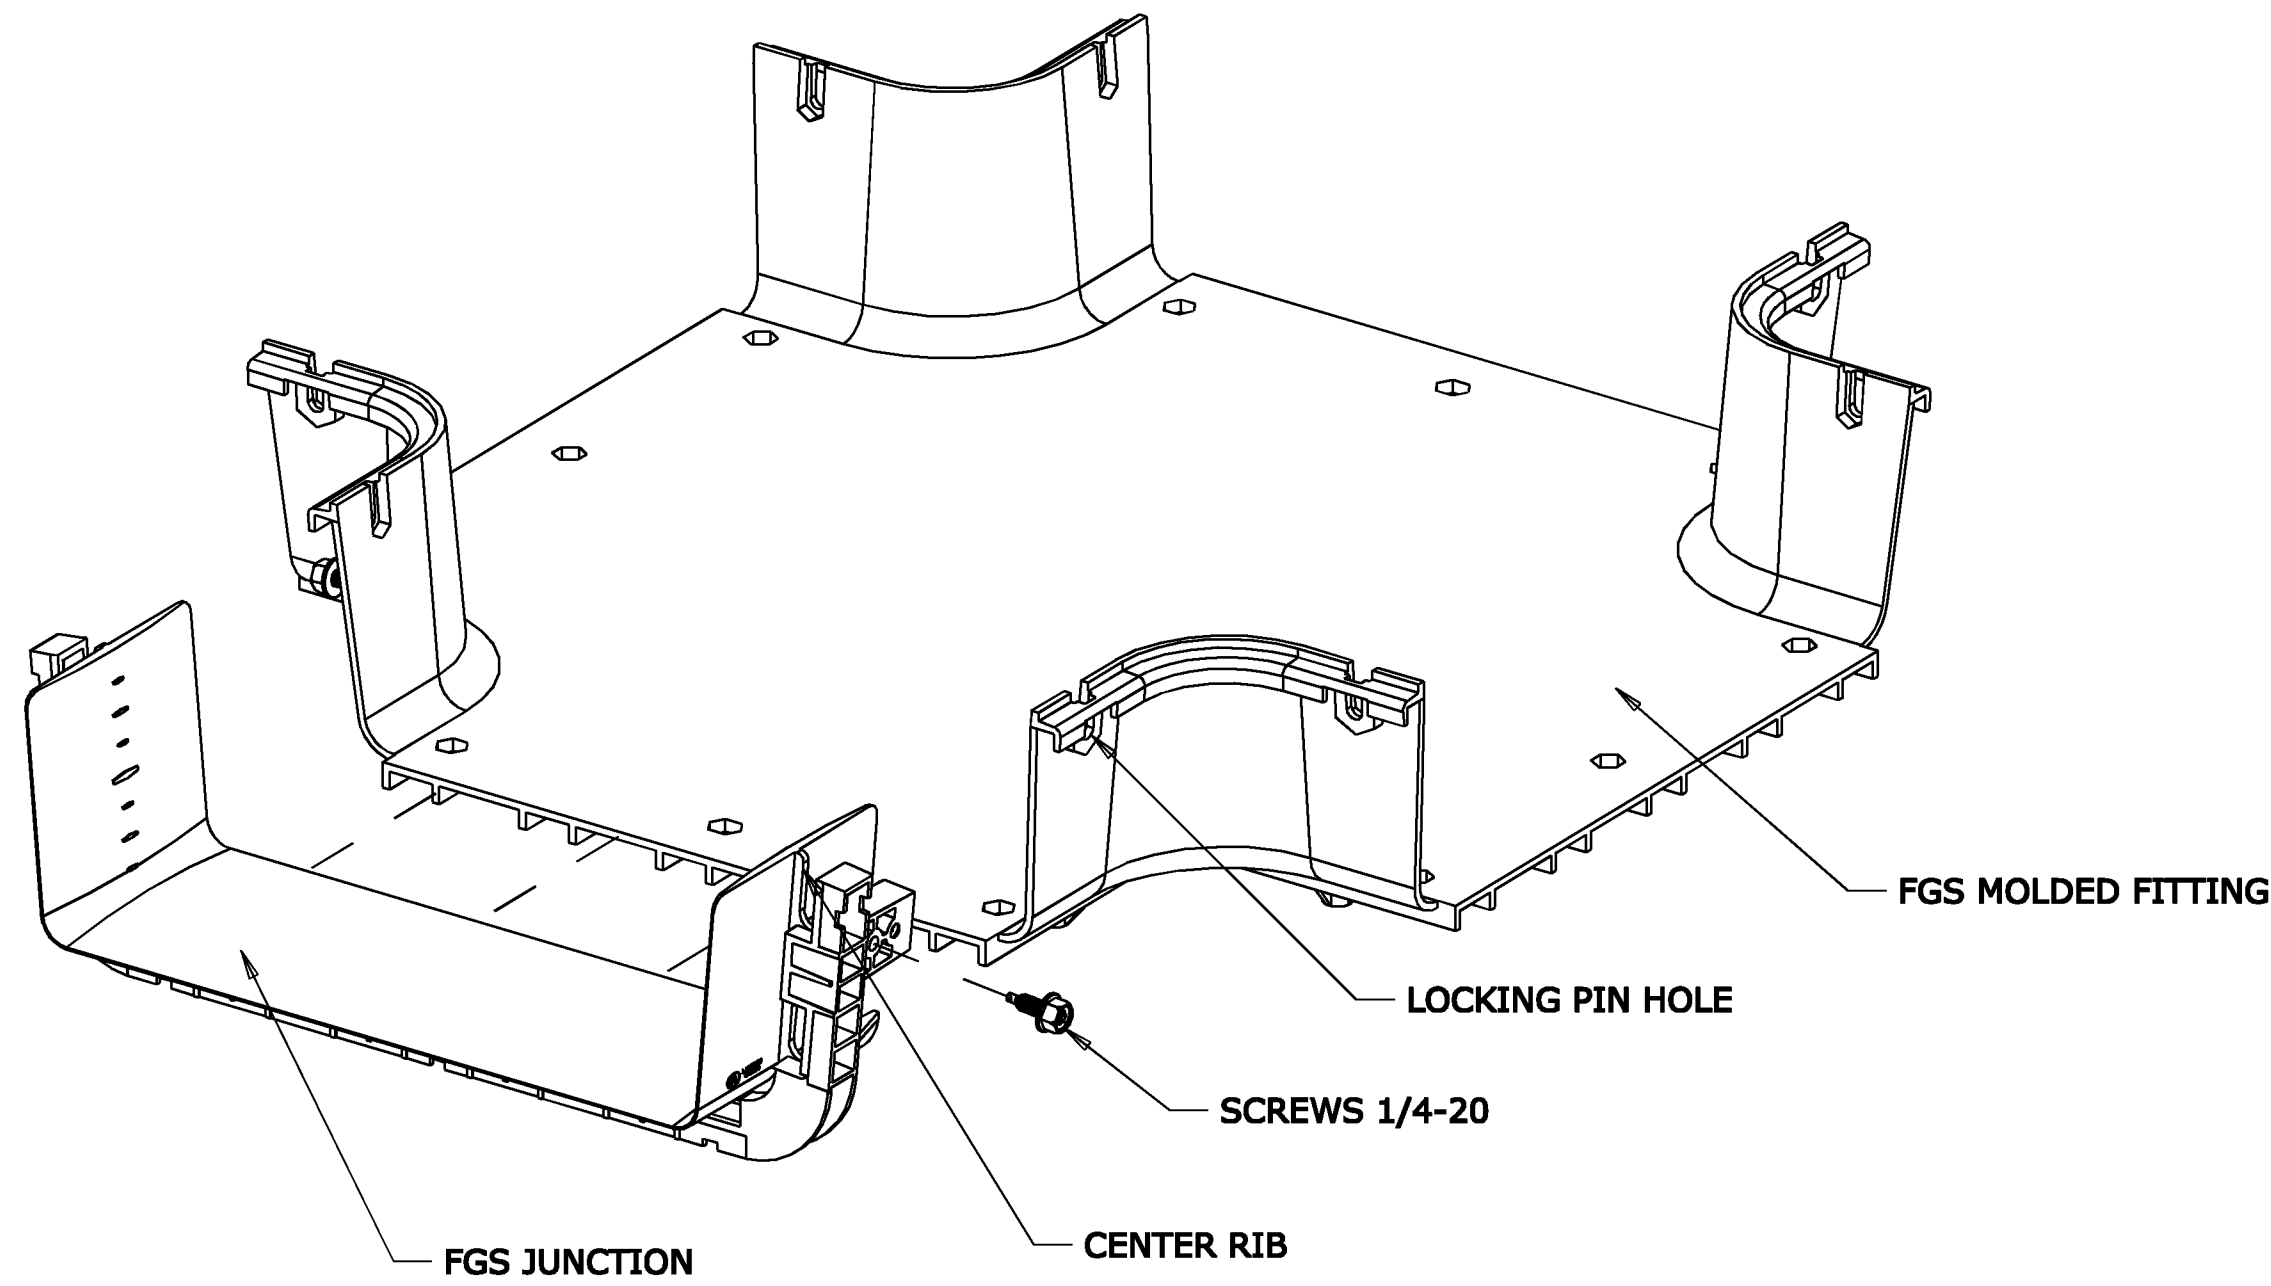

FIGURE 1
1. SLIDE FGS COMPONENT INTO JUCTION UNTIL FIRMLY STATED AGAINST THE CENTER RIB. IF COMPONENT IS A MOLDED FITTING (FIGURE 1).